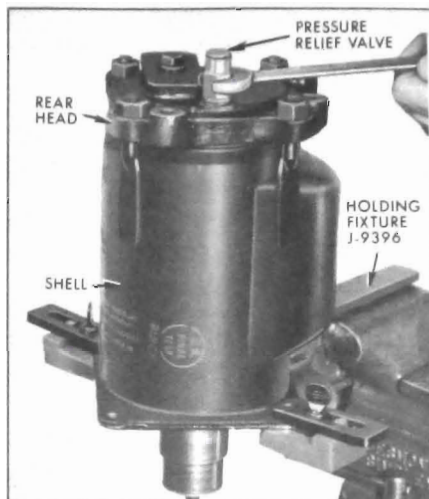

Figure 11-112—Removing Pressure Relief Valve
9. Attach J-9396 holding fixture to compressor and firmly mount assembly in vise. See Figure 11-112.